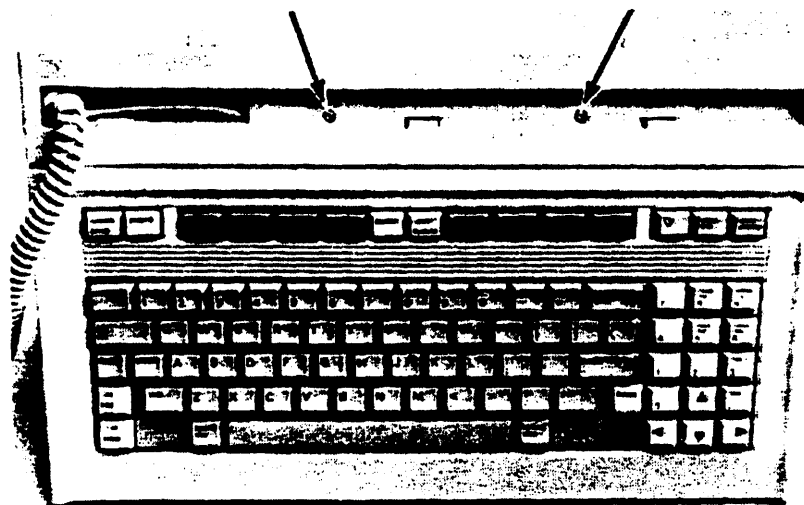

Figure 6-35. Keyboard Top Screws
3. Remove the two top screws. See figure 6-35.